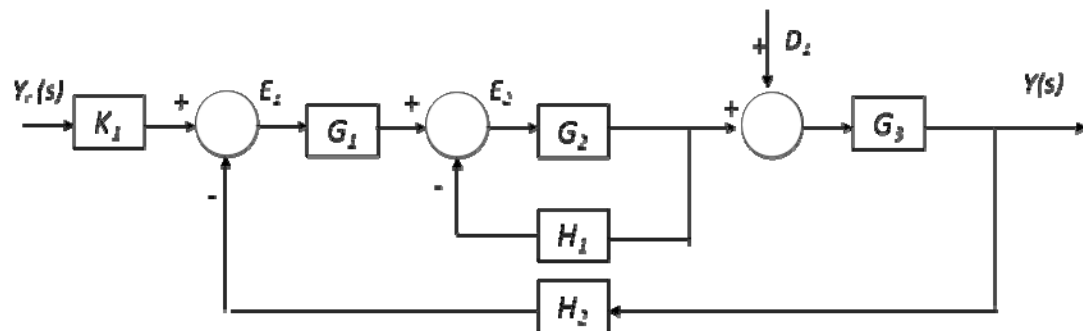

Figure 5: Closed-loop transfer function for a complex control system.
5. [a] Solve the closed-loop transfer function  $Y(s)/Y_r(s)$  in terms of  $K_1$ ,  $G_1$ ,  $G_2$ ,  $G_3$ ,  $D_1$ ,  $H_1$  and  $H_2$  for the complex control system in Figure 5. This block diagram has two feedback loops and one disturbance variable.